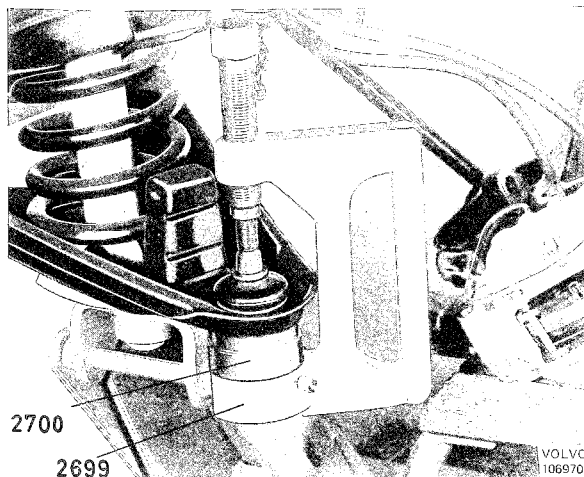

Fig. 6-29. Removing lower ball joint
5. Press the ball joint out of the lower control arm with press tool 2699 and sleeve 2700, see Fig. 6-29.